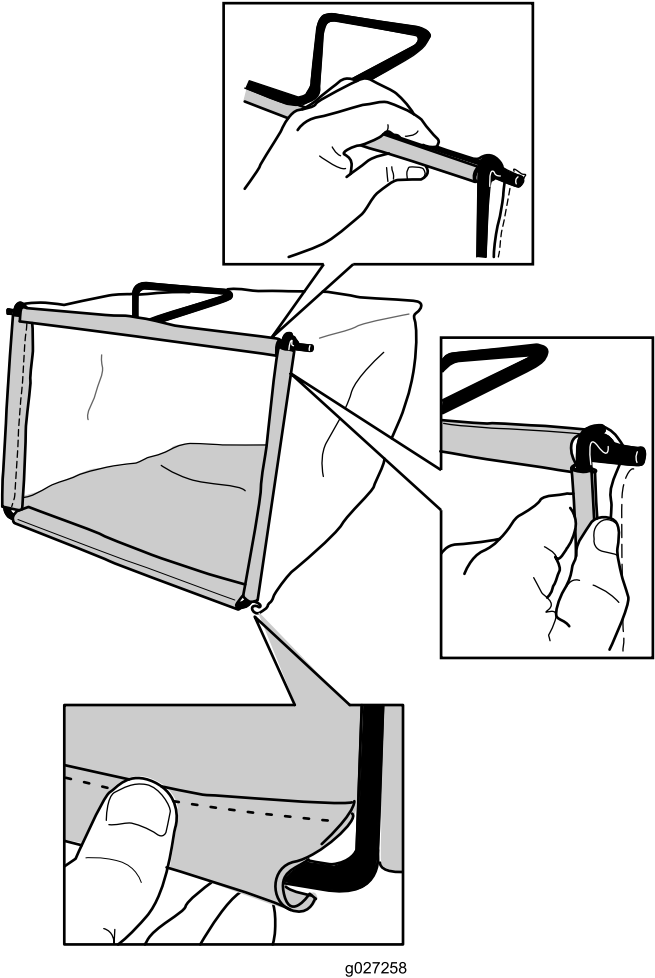

Figure 9
2. Hook the bottom channel of the bag onto the bottom of the frame (Figure 9).
- 3. Hook the top and side channels of the bag onto the top and sides of the frame, respectively (Figure 9).